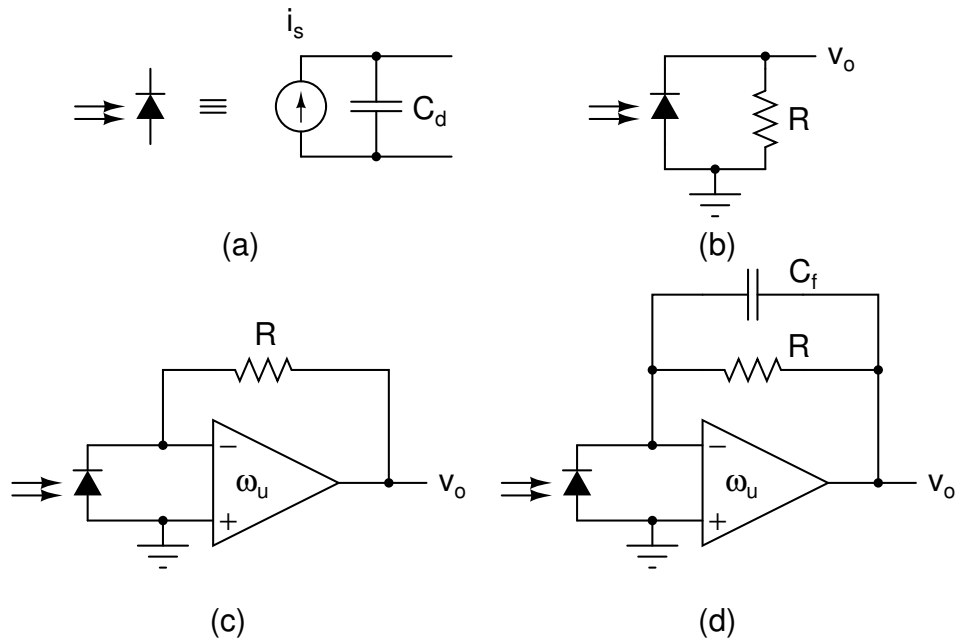

Figure 4.1: Problem 4.1.
4.1. Fig. 4.1 shows the model for a photodiode. The diode is setup in reverse bias (biasing arrangement not shown) and when light shines on it, a current is produced. The current can be converted to voltage using the schemes in Fig. 4.1(b) to (d). This circuit is used in optical communication systems. The goal is to maximize the gain as well as the bandwidth of conversion from i_s to v_o . Do the following for a given R (dc gain V_o/I_s).
- What is the bandwidth in Fig. 4.1(b)? What is the gain bandwidth product?
- What is the bandwidth in Fig. 4.1(c)? Choose the opamp's ω_u such that the quality factor of the denominator polynomial is $1/\sqrt{2}$ (Same as damping factor $\zeta = 1/\sqrt{2}$). With this quality factor, you get a maximally flat magnitude response (maximum possible bandwidth without peaking; derivatives $d^n/d\omega^n |H(j\omega)|^2$ are zero to the maximum degree n that is possible.). What is the gain bandwidth product? What are the advantages and disadvantages of Fig. 4.1(c) when compared to Fig. 4.1(b)? (One sentence each)
- What is the bandwidth in Fig. 4.1(d)? Assume an ω_u for the opamp and then choose C_f such that you get a maximally flat magnitude response. What is the gain bandwidth product? What are the advantages and disadvantages of Fig. 4.1(d) when compared to Fig. 4.1(b, c)? (One sentence each)